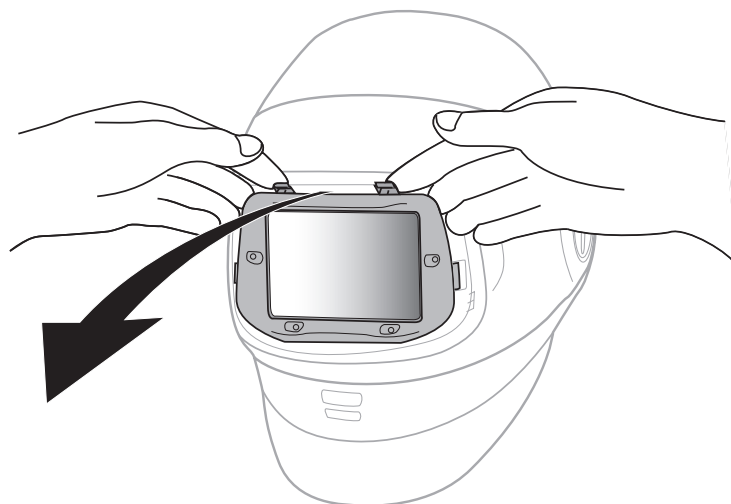

Fig. 21b
- b. There are two small tabs at the top of the ADF. Push down on the tabs and pull the ADF out of the welding helmet (Fig. 21b).